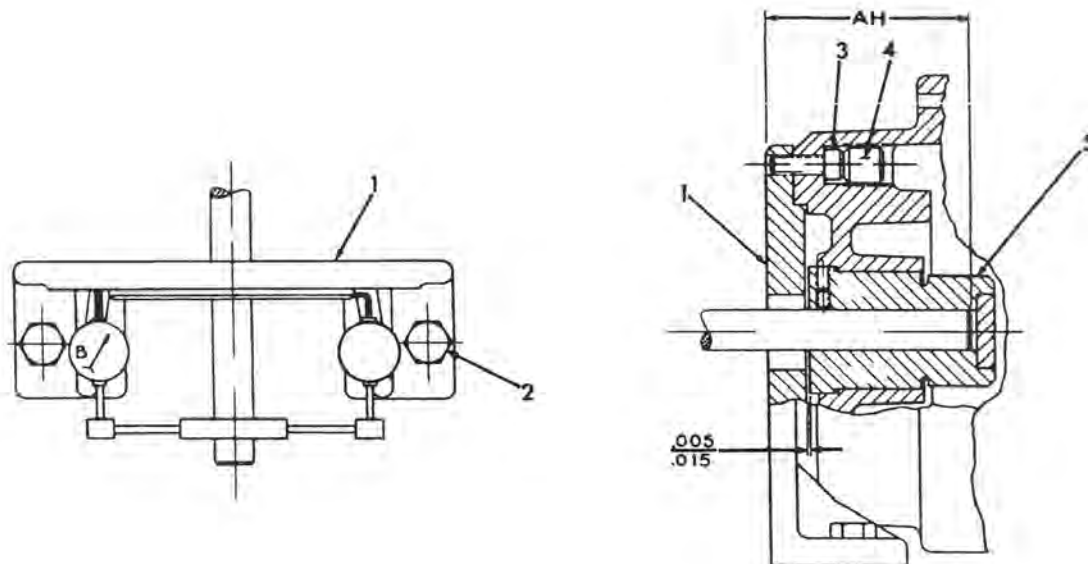

Figure 4. 60 Series Hazardous Location Brake - Foot Mount Installation
(See Figure 4)
8. Install bracket (1) over motor shaft extension and half-tighten cap screws (2). The distance from the mounting face of the bracket (1) to end of motor shaft must not exceed dimension "AH" max.
9. Clamp dial indicator "A" to motor shaft and position bracket (1) with shims as necessary, by tapping with a soft mallet until dial indicator does not read over .002" total change in one full revolution of the shaft. Move dial indicator to "B" and position bracket until dial indicator does not read over .004" total change in one full revolution of shaft.
11. Remove hub (6, Figure 7) from brake and mount hub with key (not supplied by Dings) on motor shaft per dimension as shown in Figure 4. Tighten both setscrews to 8-10 lb. ft. torque. Complete mounting of brake (paragraph 2-6).